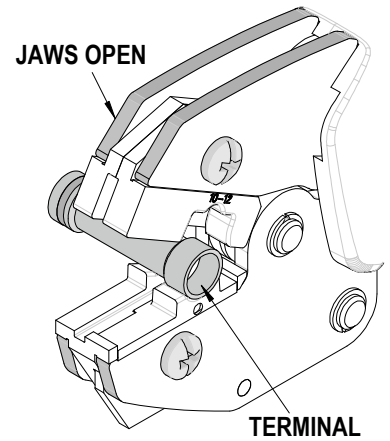

Figure 1
1. Position the terminal with the barrel facing up into the color-coded nest. See Figure 1.